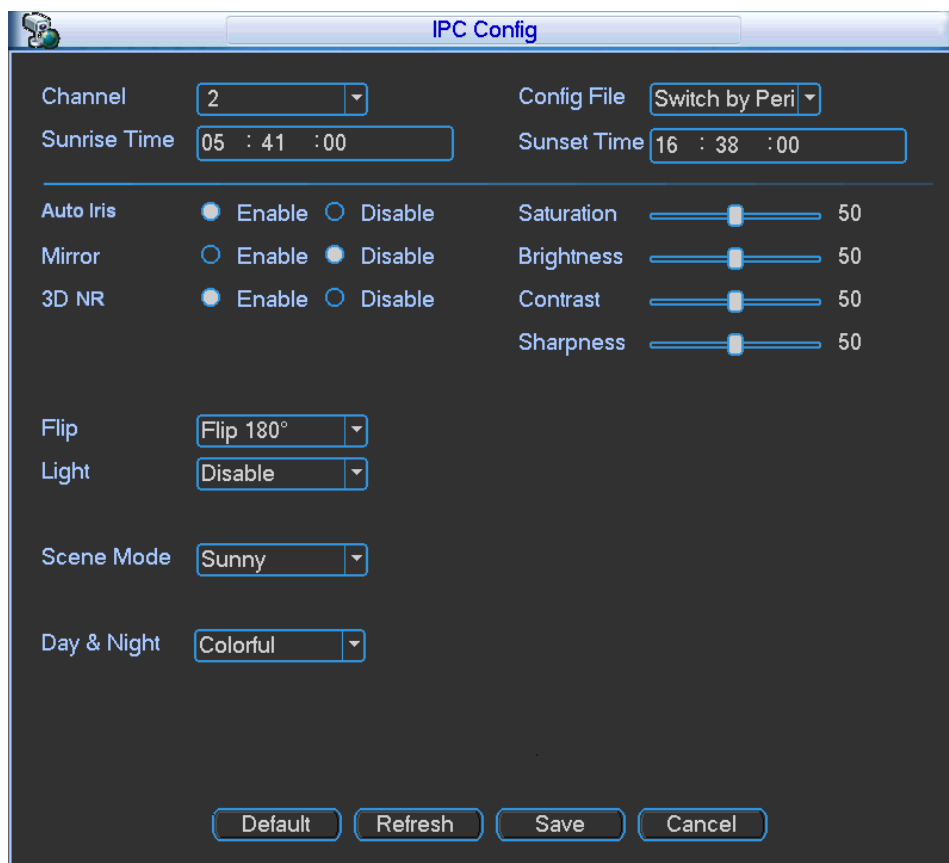
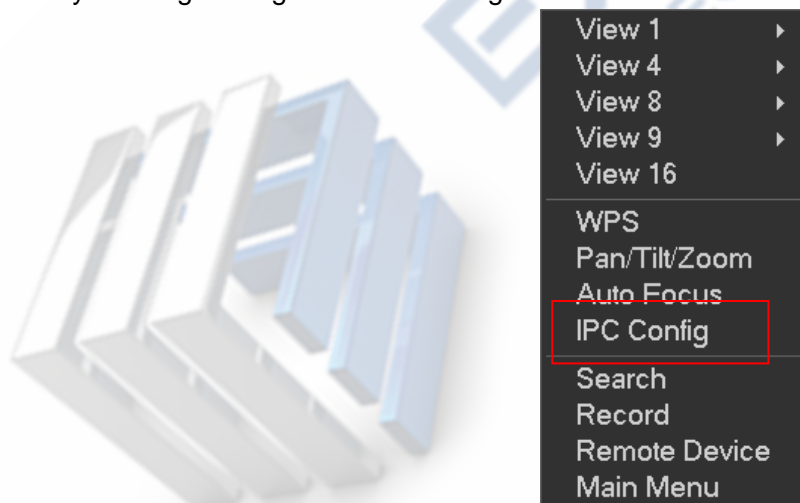

Figure 5-10
Figure 5-11
- IPC config: Double click the  on the IPC config column, you can go to the IPC setup interface. See Figure 5-10.
For some series product, on the preview interface and then right click mouse, click IPC config item, you can go to Figure 5-10. See Figure 5-11.